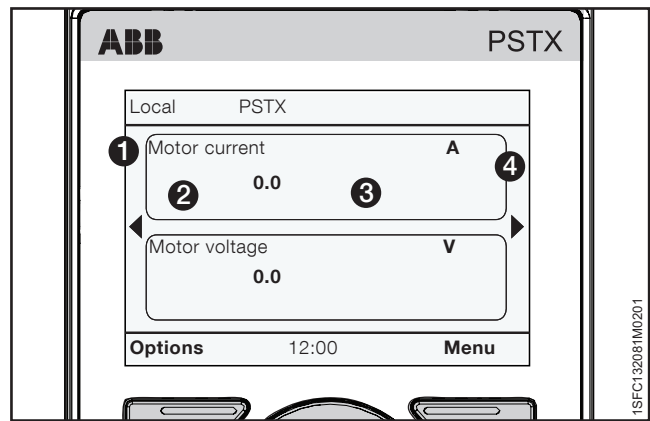

Figure 6.21
Select the display style for the home view. The selected display style is shown by ❷ in **Figure 6.21**.
Push "Save" to save the value. Decimal numbers are shown in ❸ in **Figure 6.21**.
Push  "Save" to save the display name. Display name is shown by ❶ in **Figure 6.21**.
Push  "Save" to save the value. Value is shown by ❸ in **Figure 6.21**.
Display signal min as - Push  "Edit" to select the scaled minimum value in the Home view. Use the Navigation keys to change the value, Push  "Save" to save the value. See ❸ in **Figure 6.21**.
Display signal max as - Push  "Edit" to select the scaled maximum value to show in the Home view. Use the Navigation keys to change the value, Push  "Save" to save the value. See ❸ in **Figure 6.21**.
to save the Home view unit name. See ❹ in **Figure 6.21**.